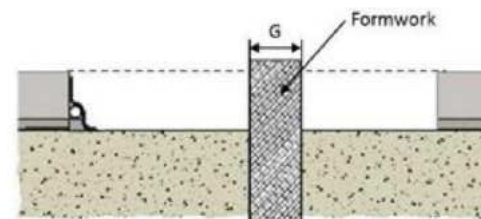

Figure 3: Formwork installation
- Install a formwork of G thickness in polystyrene (a plywood-polystyrene- plywood sandwich for thickness over 65 mm) or in wood (Figure 3). If plywood is used, it must be coated with a form oil before being installed.